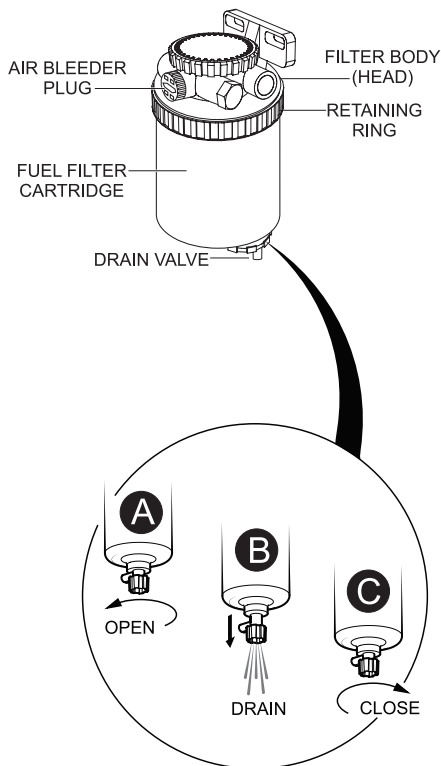

Figure 57. Draining Fuel Filter
Inspect the fuel filter **daily**. If the fuel filter (Figure 57) has collected a significant amount of water and sediment at the bottom of the cup, it should be drained off immediately.
1. Loosen the air bleeder plug (Figure 57) on the fuel filter body.
2. To discharge the fuel inside the fuel filter, **OPEN** the drain valve on the fuel filter by turning the knob **counterclockwise (A)** approximately 3-1/2 turns until the valve drops down 1 inch (25.4 mm) and draining occurs (**B**).